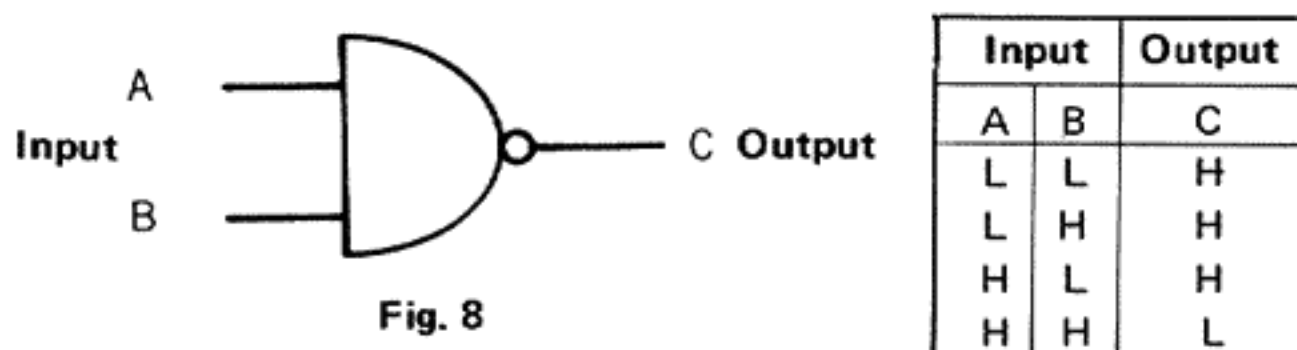

Fig. 8
- d. The NAND gate in IC804 and IC805 (physical No. M53200) has the input/output relationships shown in Figure 8. As is seen, when one of the two inputs is Low, the output is always High regardless of the High/Low states of the other input, thus making Low inputs predominant over High inputs.